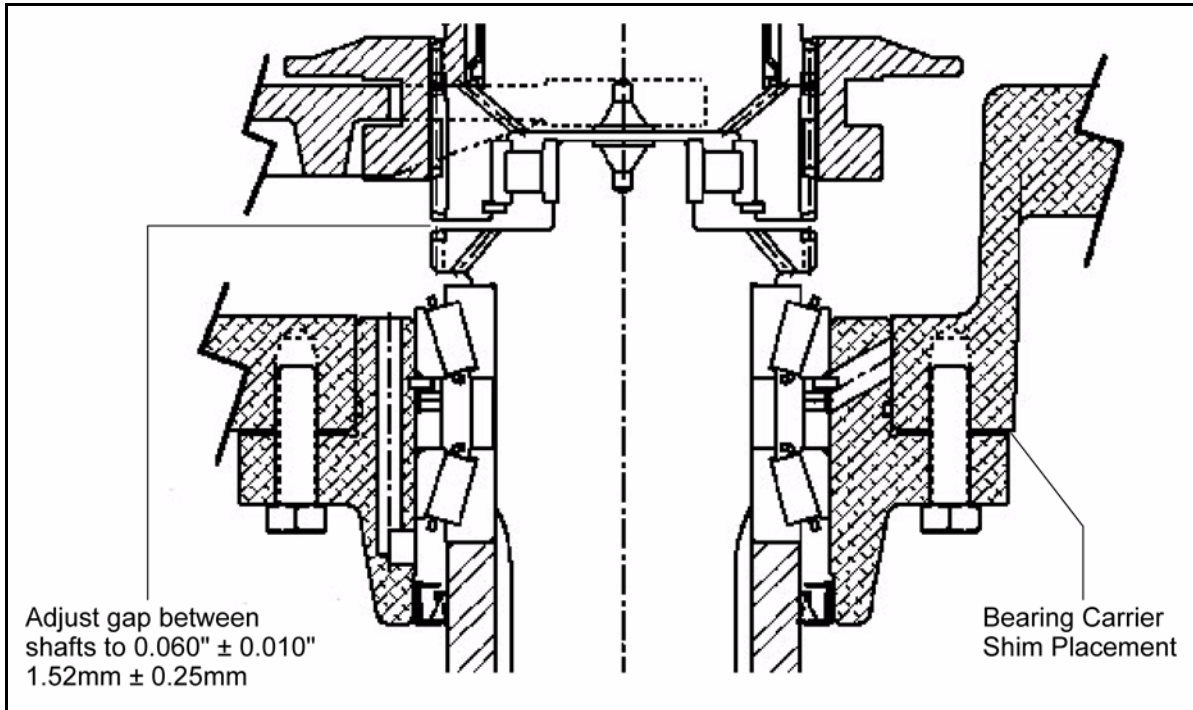

Figure 9-8: Shaft End Gap
5. Insert tail shaft into gearbox housing, aligning inner race of roller bearing with outer race on the mating input shaft. Also see Figure 9-8: “Shaft End Gap”.